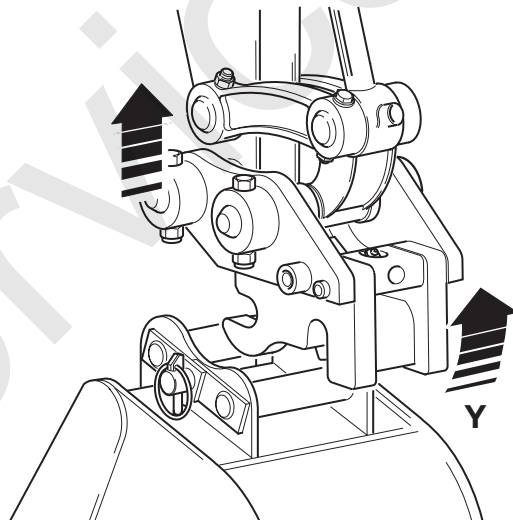

Fig 109.
- 6 Slowly roll the Quickhitch back and simultaneously raise the dipper arm to release the buckets' front pivot pin, ⇒ Fig 109. \(□ 273\) at Y.